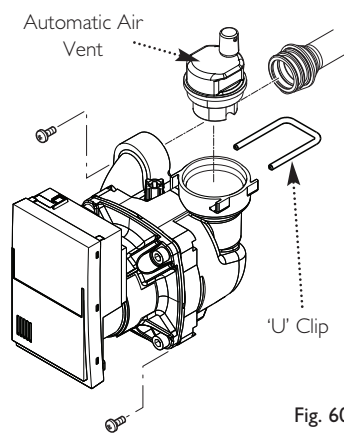

Fig. 60
13.16 Automatic Air Vent - Wilo (Fig. 60)